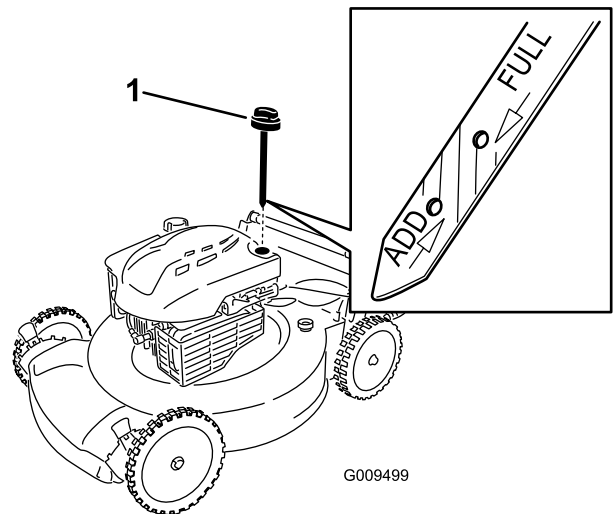

Figure 4
2. Remove the dipstick by rotating the cap counterclockwise and pulling it out (Figure 4).
through 5 until the oil level is at the **Full** mark on the dipstick (Figure 4).